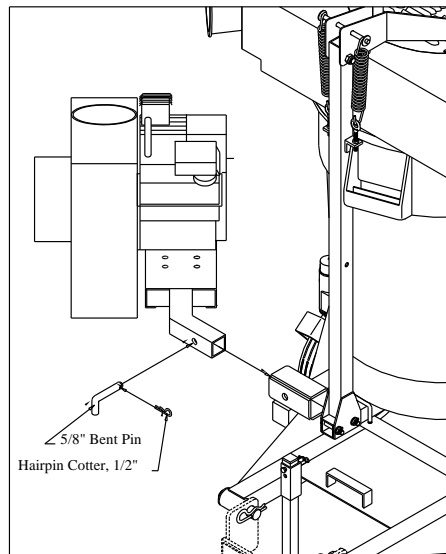

Fig. 8
8. Bolt Engine ass'y to frame (3) with 5/16" x 1 1/4" bolts and 5/16" locknuts. Note: bolt the engine ass'y into the holes closest to the end of the engine plate. Slip engine/frame assembly into receiver on main frame (1). Secure with 5/8" bent pin (34) and 1/2" hairpin cotter (37). See Fig. 8